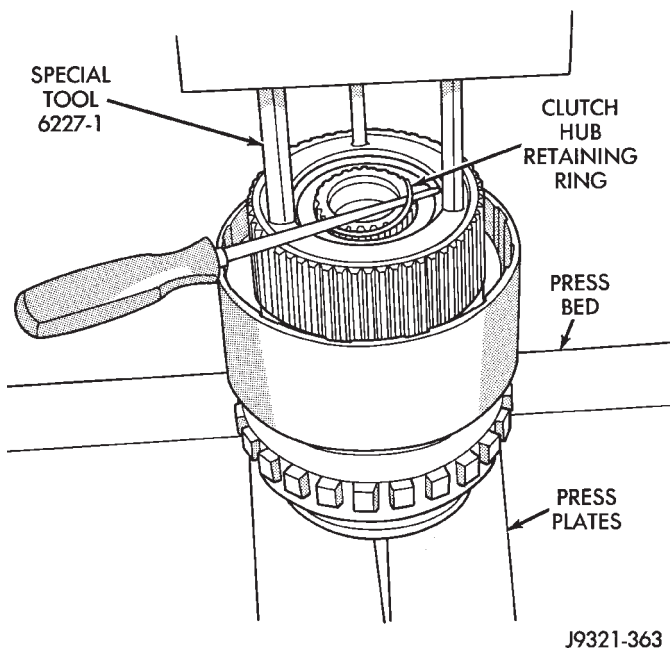

Fig. 209 Direct Clutch Hub Retaining Ring Removal
(5) Remove direct clutch hub retaining ring (Fig. 209).